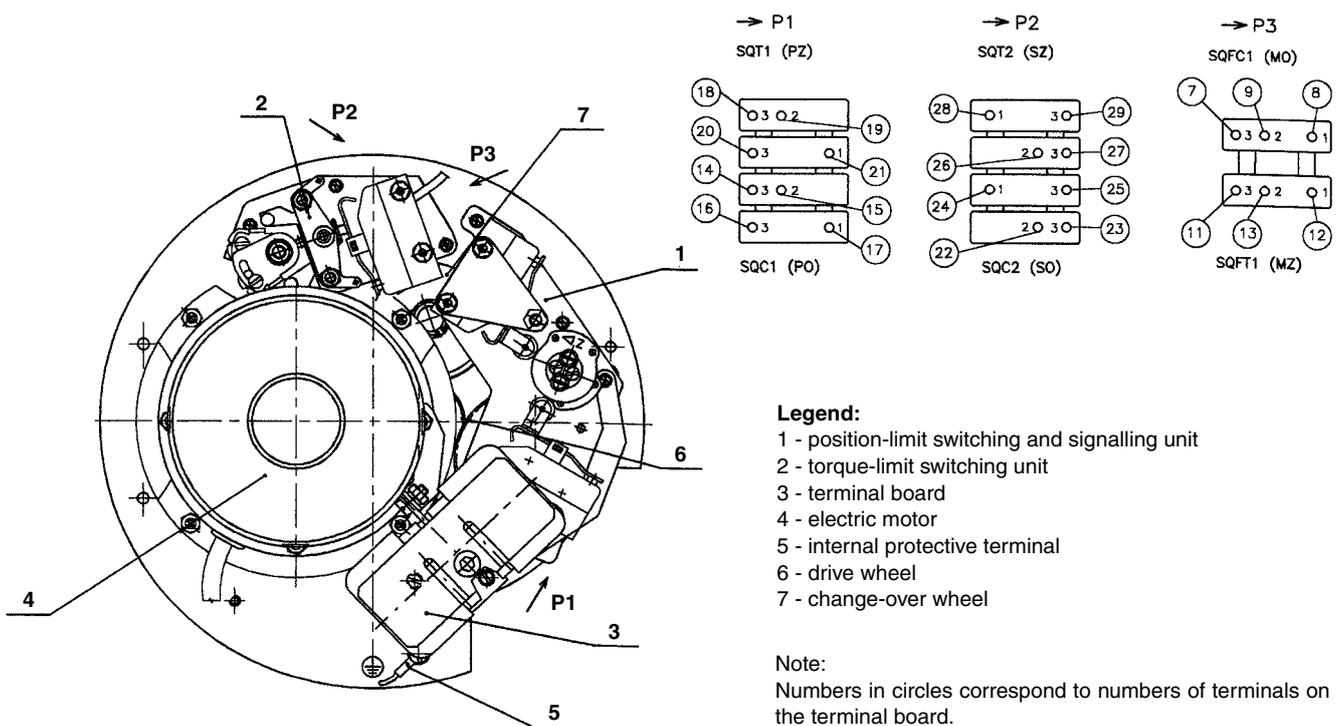
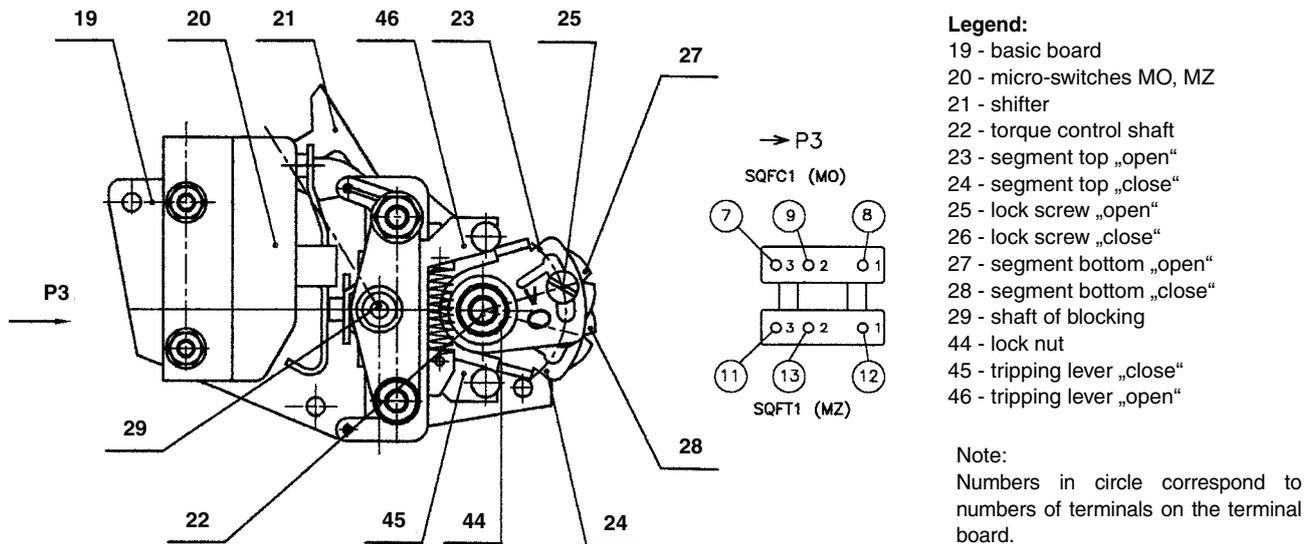

Fig. 1 – Control board
Fig. 2 – *Torque-limit switching unit*
a) Torque-limit switching unit - Fig. 2 is, as an independent assembly unit, composed of basic board -19- carrying micro-switches -20- and, at the same time, forms bearings for the shaft of torque control -22- and the shaft of blocking -29-.
In setting different tripping torque than that to which the unit was set in the factory, the procedure is as follows: release lock nut -44- (see Fig. 2) and particular lock screw -26- (for direction „close“) or -25- (for direction „open“). Then, insert a screwdriver into the slot in top segment -24- or -23- and turn the segment until the slot in segment -28- or -27- matches with particular point on the scale. This point is determined by dividing the difference between the maximum and minimum adjustable torque in Nm by the number of divisions between the mark of the maximum and minimum torque. The result shows which part of the tripping torque (in Nm) corresponds to one division of the scale; interpolation is used for determining the point on the scale which the slot in segment -28- or -27- should tally with.
- 2) If, after starting the actuator from the limit position of the output shaft of the actuator, it stops spontaneously it is necessary to ensure that the slot in the change-over wheel (Fig. 1) stops in the limit position of the output shaft of the actuator (after tripping of the torque-limit switch) before it runs on the shifter -21- Fig. 2. This is achieved by suitable moving-round the actuator output shaft when connecting the actuator with the valve or by suitable moving-round the change-over wheel with respect to the output shaft. To allow for this, the change-over wheel is fitted with additional two holes.